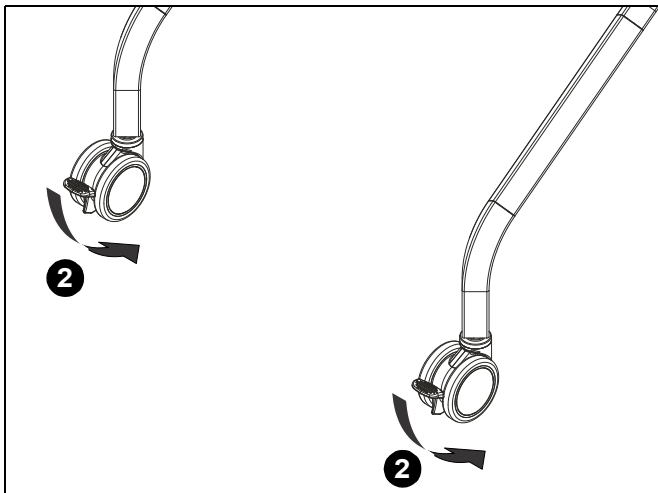

Figure 23
2. Always lock the wheels when the cart is not moving by pressing down the locks on wheels. (See Figure 23)